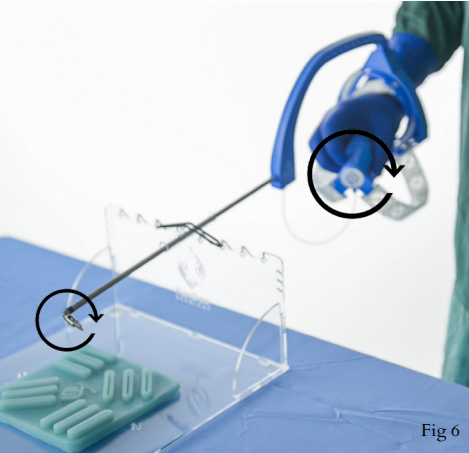

Fig 6
- Turning the Rotation Dial causes the Articulating Tip and device to rotate about its axis and can be performed while straight or articulated (Fig 6).